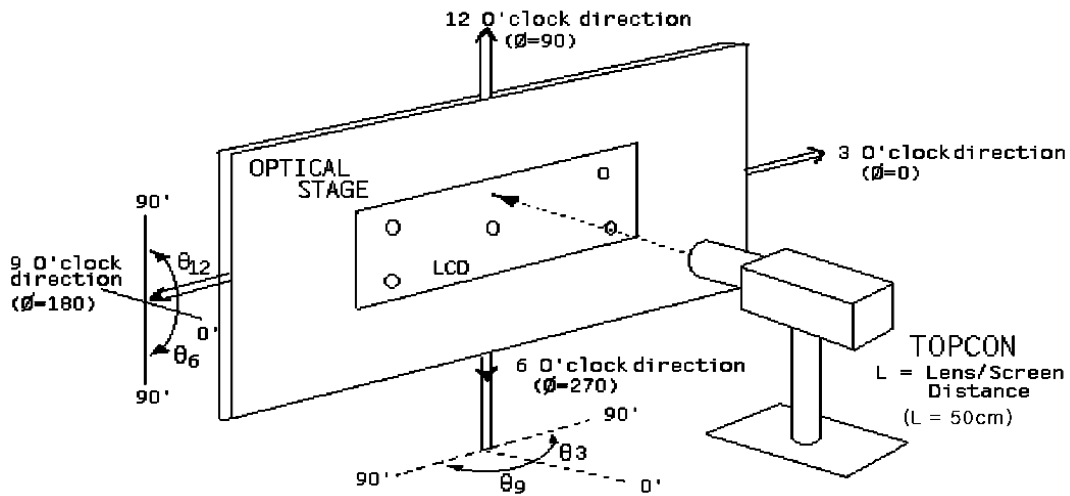

Figure 11: Measurement Set Up
Note 1: Viewing angle is the angle at which the contrast ratio is greater than 10. The viewing are determined for the horizontal or 3, 9 o'clock direction and the vertical or 6, 12 o'clock direction with respect to the optical axis which is normal to the LCD surface (See Figure 11).
Note 2: Contrast measurements shall be made at viewing angle of $\Theta = 0^\circ$ and at the center of the LCD surface. Luminance shall be measured with all pixels in the view field set first to white, then to the dark (black) state. (See Figure 11) Luminance Contrast Ratio (CR) is defined mathematically.